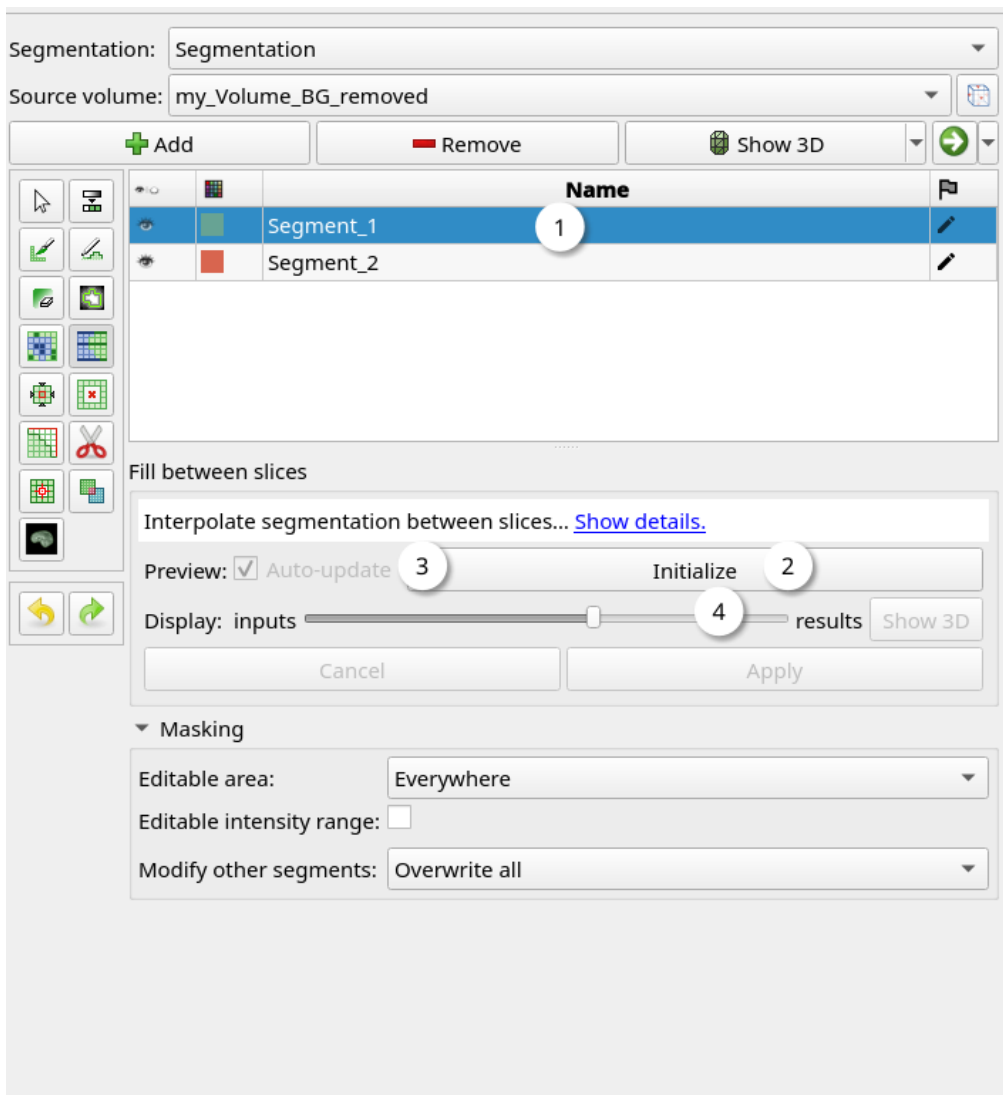

Figure 41: Fill between slices tool
**Fill between slices** is used similar to **Grow from seeds** (section 3.1.4). Start by creating at least one segment and segment a slice with a manual tool. Skip at least one slice and segment the next slice. Repeat the last 2 steps until you have covered the desired segmentation volume. Click on **Initialize** (figure 41:2) and wait for the interpolation preview to appear in the 2D view area. The first segmentation will most likely not satisfactory. Deactivate **Auto-update** (figure 41:3), switch to the **Paint** tool and manually paint over the slices with